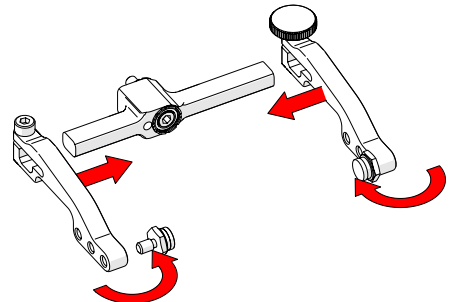

Fig. 131 - Attach arms & move buttons
5. Place the pivot buttons on the inside of the probe holder arms (Fig. 131) using a 3/8 in wrench (Fig. 25).